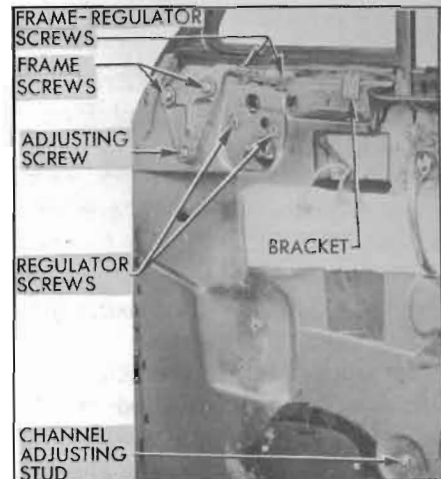

Figure 13-37—Ventilator Adjustments—Series 50-70 Shown
2. To move the upper end of ventilator assembly inward or outward, loosen the frame adjusting screw lock nut and turn adjusting screw with screw driver. Turning adjusting screw clockwise moves ventilator frame inward. It may be necessary to loosen the upper ventilator screws slightly. See figure 13-37. Tighten screws and lock nut securely when adjustment is completed.
3. To move ventilator assembly up, down, forward, or rearward — loosen frame screws, adjusting screw lock nut, regulator screws, channel adjusting stud lock nut, then remove the frame bracket screw and the division channel screw at upper edge of inner panel. See figure 13-37. Move ventilator in required direction then tighten all screws and lock nuts. It may be necessary to relocate the holes for the frame bracket and division channel screws to reinstall them.
3. Clean sealer from division channel lower adjusting stud and remove stud. See figure 13-37.